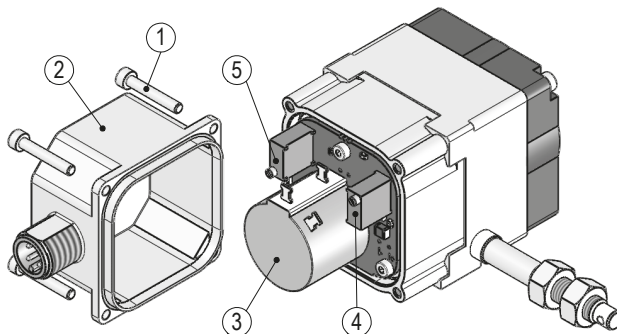

Fig. 12: Adjustment of the trim potentiometer MWIHP/R
Via two trim potentiometers Pe (3) and Po (4) (see Fig. 12) these values can be adjusted to the application's actual start and end position.